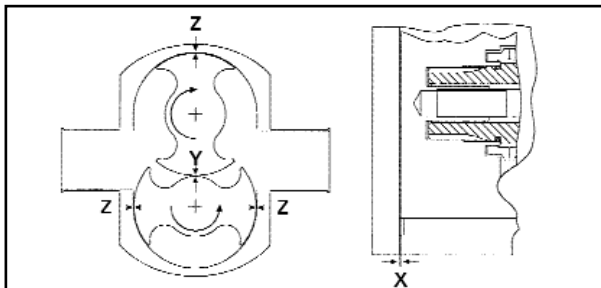

Figure 18 - Shim / Clearance Measuring
Hy~Line and Ultima pumps have very small, carefully controlled clearances between rotors and rotor case - see figure 18a for specific details. If the end clearances are incorrect they can be adjusted. The other clearances- rotor to rotor (Y) and rotor tip to rotorcase bore (Z) factory set and cannot be adjusted. See figure 18.
- a) With the pump assembled, the end cover (122) removed and the rotors (56 & 57) and rotorcase (1) fully secured to the correct torques. Measure the rotor front end clearances (X) using a depth gauge or feeler gauge and straight edge.
- b) If the clearance is incorrect, remove the rotors (56 & 57) see section 6.02. Remove the O rings (31) and shims (30), the shims are cut to allow them to slide over the shaft. Tri-bolt shaft shims are uncut.
- d) Measure the thickness of the shim pack for each shaft and calculate the thickness of shim to add or remove on each shaft to give the front clearance specified in figure 18a. Shims are available in increments of 0.025 mm (0.001 inch). (See Figure 18).